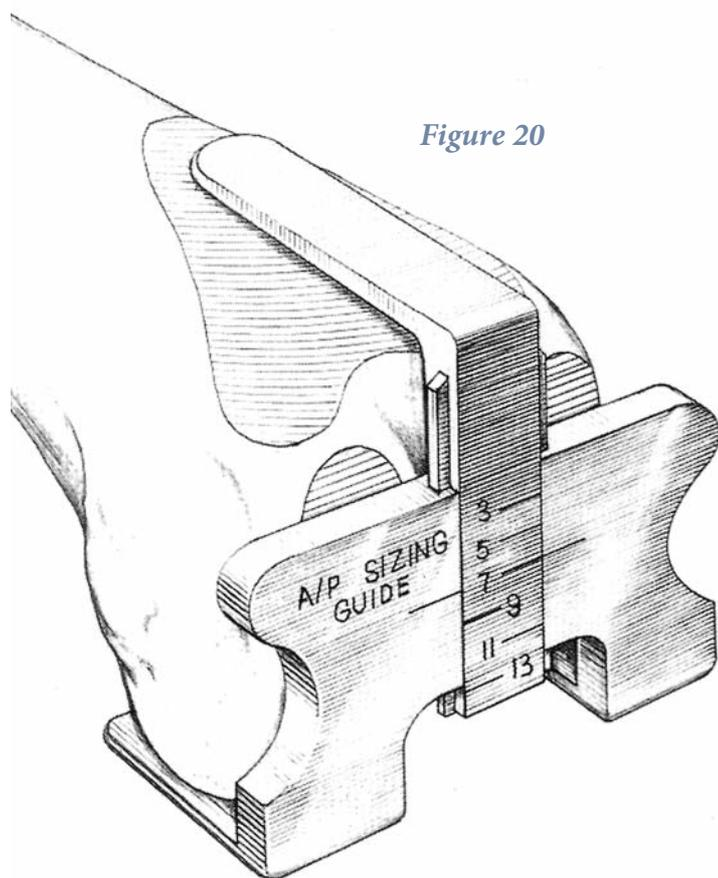
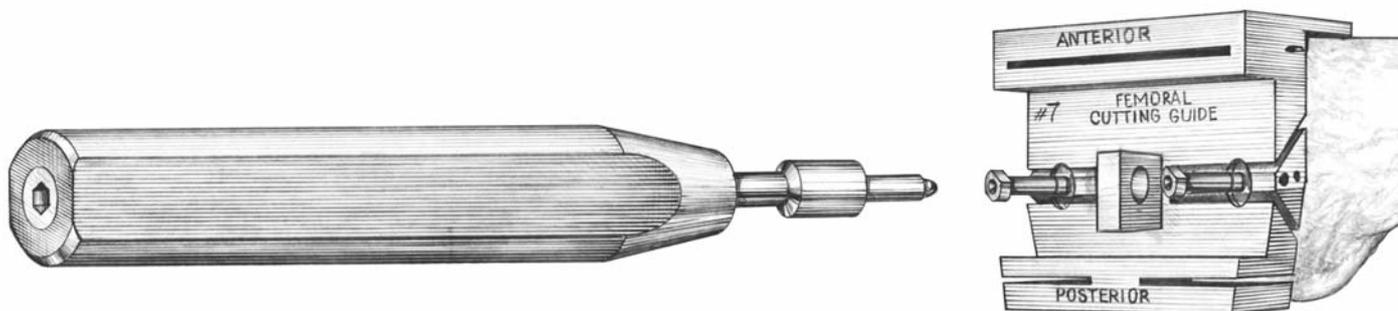

Figure 20
Figure 21
- ▶ The sizing guide should be used to determine the appropriate size cutting block and femoral component. The size can be determined by placing the feet of the guide under the posterior femoral condyles. The top bar should be collapsed until it seats flush on the anterior skin resection. In the event of in-between sizing, the smaller size should be selected (Figure 20).
- ▶ Position the Femoral Cutting Guide on the distal femur. The anterior lip of the block should sit flush against the resected anterior femur (Figure 20). Using the pin driver and a mallet, drive the two serrated pins into the femur (Figure 21). Additional stability may be achieved by using towel clamps on the side of the blocks.